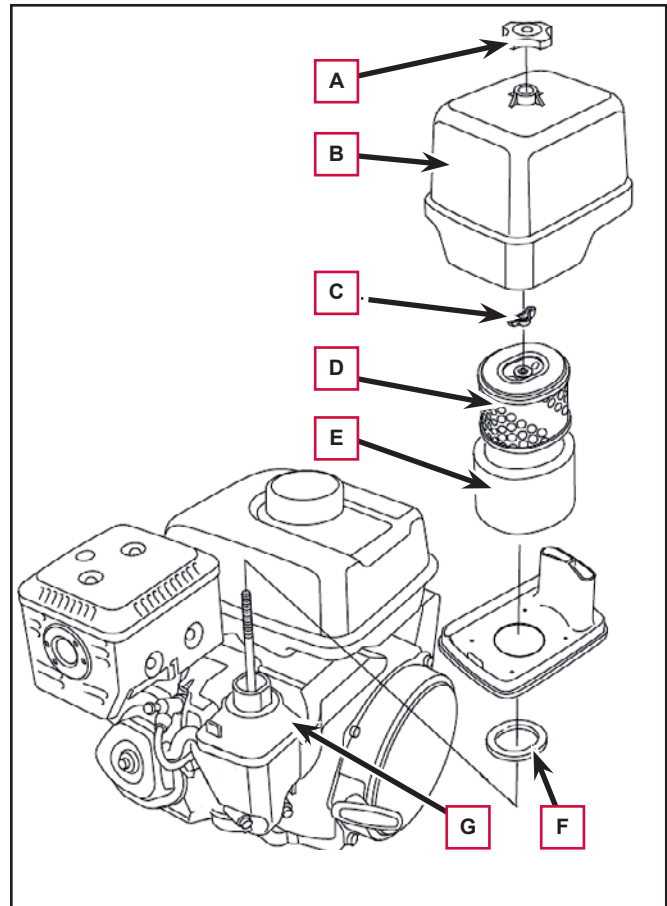

Figure 5
5. Remove the wing nut (A, Figure 5) and remove the cover (B).
6. Remove the wing nut (C) and disassemble the filter element.
7. Separate the paper filter (D) from the foam filter (E).
8. Check both filters and replace them if necessary. Replace the paper filter (D) when required (see Scheduled Maintenance Table).
10. Clean with a wet cloth the base and the cover (B) of the air filter. Take care to prevent dirt entering the air duct (G).
11. Fit the foam filter (E) on the paper filter (D), then install the assembled filter element. Ensure that the gasket (F) is properly placed under the filter element. Screw down the filter element wing nut (C).
12. Install the cover (B) and screw down the wing nut (A).